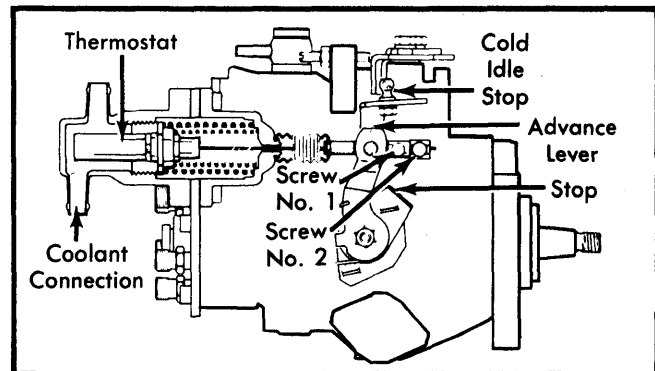

Fig. 16 Loosening Cold Start Device Screw No. 1
2) Loosen cold start device cable by loosening screw No. 1 and turning clamp 90°. See Fig. 16. Do not loosen screw No. 2.